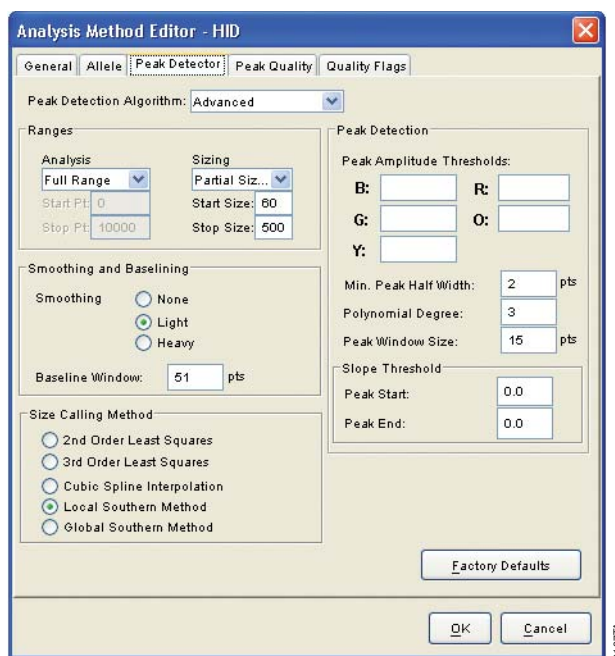

Figure 20. The GeneMapper® ID Peak Detector tab.
10. Select the Peak Detector tab (Figure 20). You will need to optimize these settings. In-house validation should be performed
10. Select the Peak Detector tab (Figure 20). You will need to optimize these settings. In-house validation should be performed.